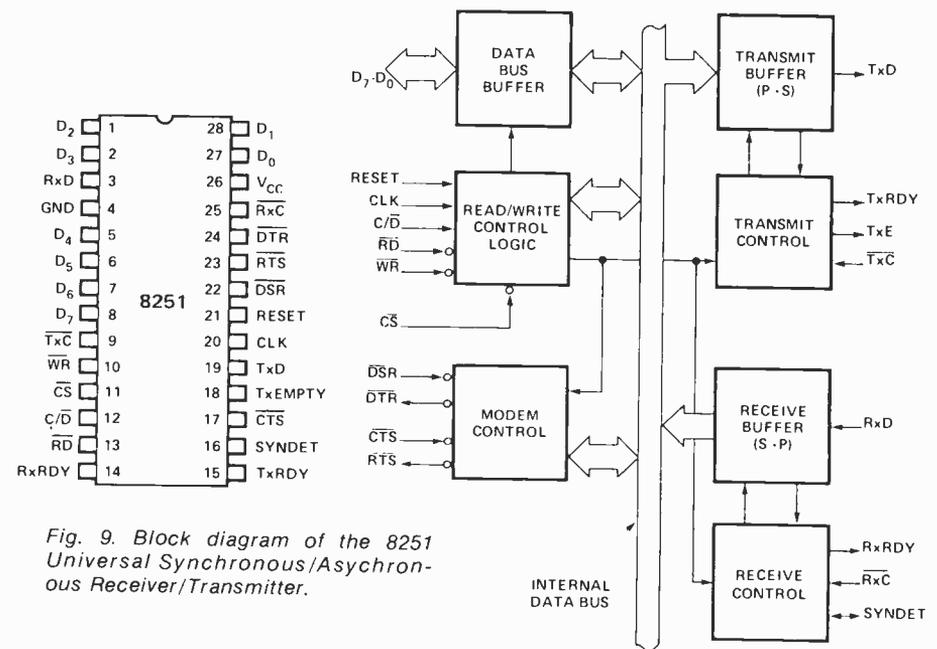

Fig. 9. Block diagram of the 8251 Universal Synchronous/Asynchronous Receiver/Transmitter.
**8251 Universal Synchronous/Asynchronous Receiver/Transmitter** — Basically this chip is capable of interfacing the internal parallel data bus to almost any popular format of synchronous or asynchronous data transmission as used to communicate outside the system. Block diagram — figure 9.